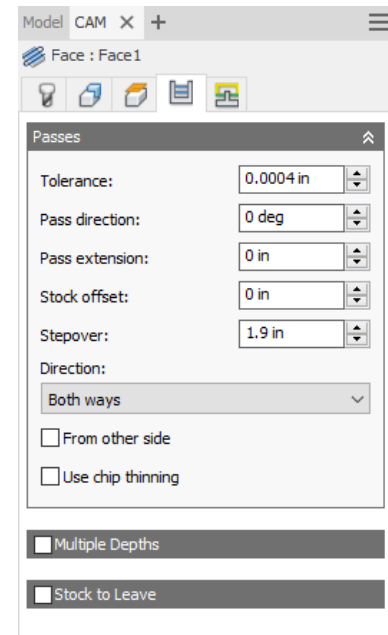

Figure 16
4. Select the  (Passes) tab. The options on this tab set how the toolpath passes are defined, in terms of tolerance, pass direction, extensions, offsets, and stepovers (Figure 16).